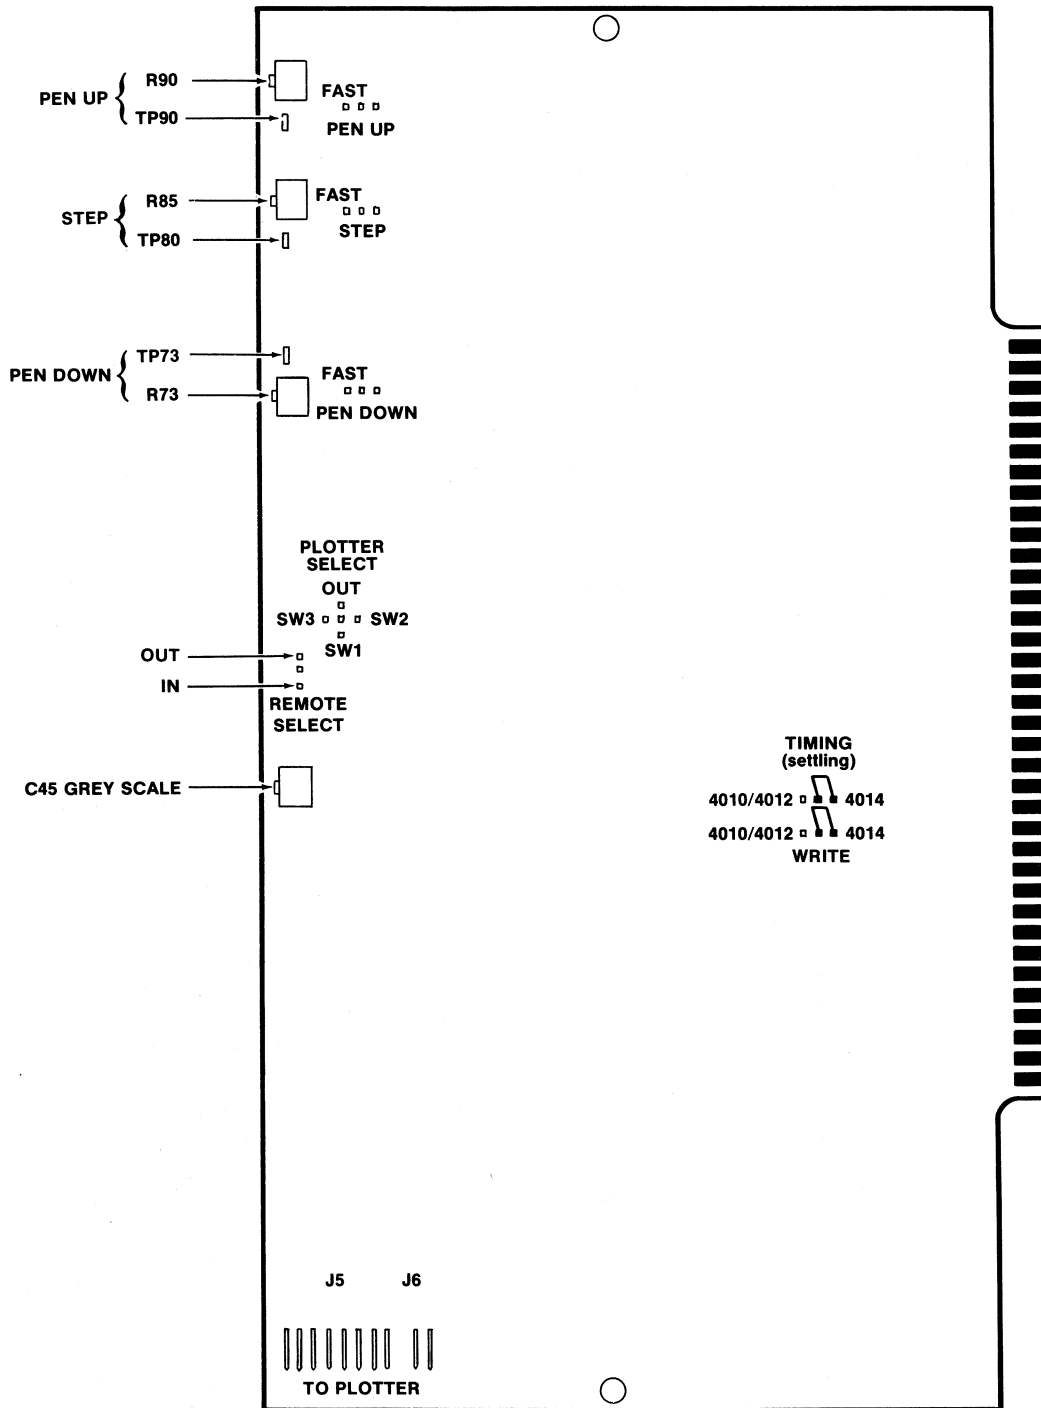

Fig. F-1. Location of strap options, adjustments and plotter connector.
**Straps.** Two strap options on the Discrete Plot Card should be checked to ensure they are in the 4014 (4014 is synonymous with 4014/4014-1 and 4015/4015-1 Computer Display Terminals). These are the WRITE and TIMING (settling) straps. Fig. F-1 shows strap locations.
**Adjustments.** The grey scale adjust is used to adjust the intensity of the display when operating in Special Point Plot mode. Fig. F-1 also shows the location of this adjustment.
**Strap Options.** (See Fig. F-1 for location of straps.) The position of the PLOTTER SELECT STRAP determines which of the spare Terminal console switches enables the plotter, Switch 1, 2 or 3. The OUT position is normally
ESC followed by FS sets this mode of graphic operation. This feature permits grey scaling by varying the size of the stored point. The size of the stored point is controlled by an intensity character that precedes each point address. The effect of a given intensity character can also be varied by adjusting the Gray Scale Adjustment. (See Fig. F-1 for adjustment location.) Specific intensity characters permit different intensity levels (spot sizes) to